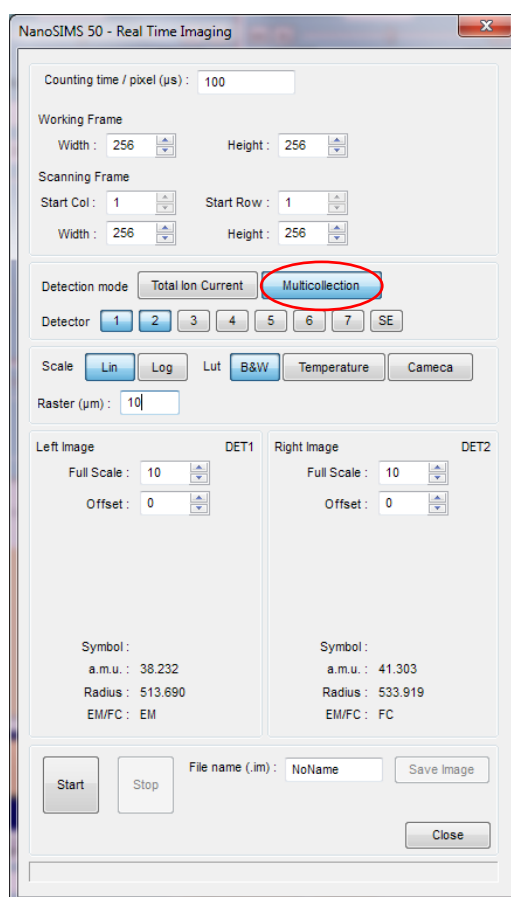

Figure 344: RTI window. This time “multi-collection” detection mode is selected
- The following window pops-up (Figure 344):
- “Multicollection” detection mode (Figure 344) is automatically selected.